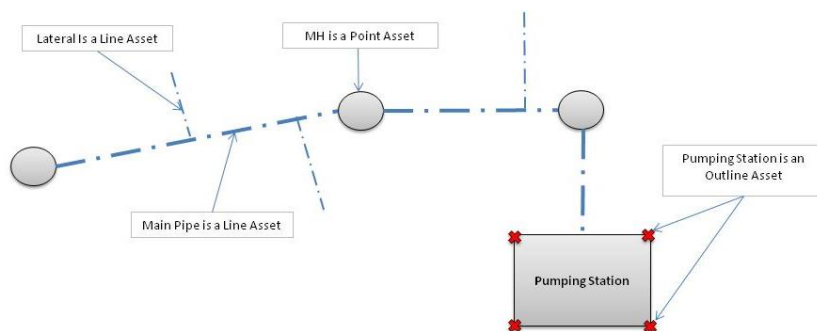

Figure 1: Point, Line or Outline Asset
- Line Asset – consists of at least two X Y positions such as a pipe/lateral (Figure 1).
- Outline Asset - consists of at least three X Y positions to form a polygon i.e. Pumping Station (Figure 1).
- Point Asset – is any asset that can be defined by one X Y position i.e. manhole (Figure 1).